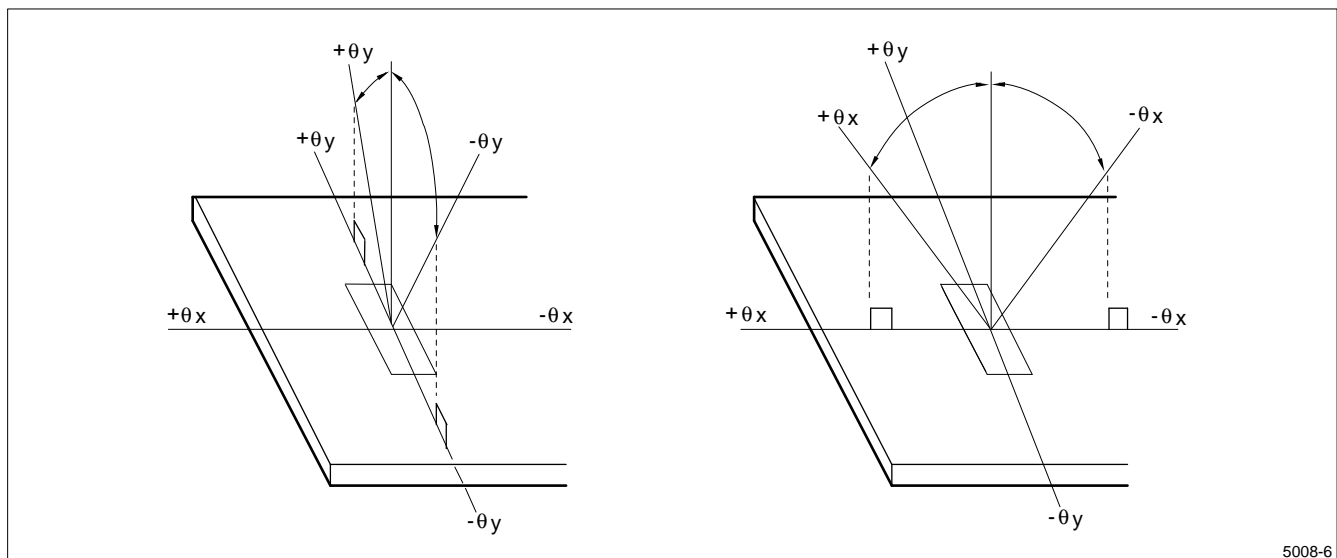

Figure 6. Definition of Viewing Angle
- The viewing angle is defined in Figure 6.